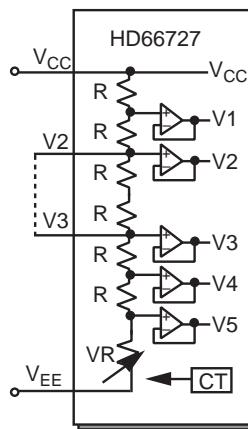

Figure 38 Contrast Adjuster
Contrast for an LCD controlled by the multiplexing drive method can be adjusted by varying the liquid-crystal drive voltage (potential difference between V_{CC} and $V5$) through the CT bits of the contrast control instruction (electron volume function). See Figure 38 and Table 30. The value of a variable resistor (VR) can be adjusted within the range from $0.4 \times R$ through $6.4 \times R$, where R is a reference resistance obtained by dividing the total resistance between V_{CC} and $V5$.